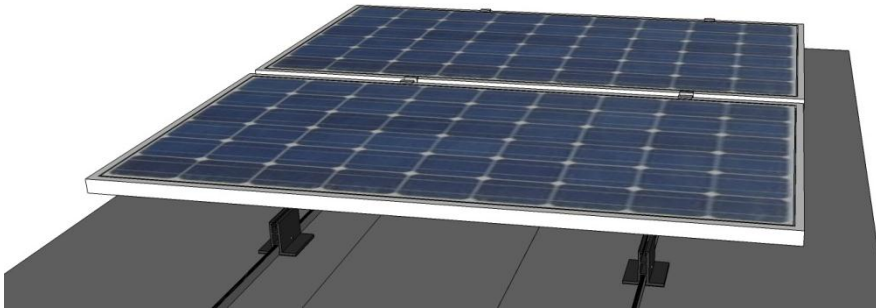

Fig 7
- Add two mid-clamps tight against first module. Add second module tight against mid-clamps. Tighten mid-clamps against both modules (fig 7).